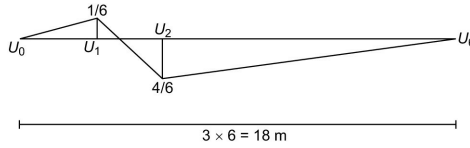

Fig. Q. 21
21. Influence line diagram for a member of the truss is as shown in the Fig. Q.21. What is the maximum direct force in the member when a udl of intensity 20 kN/m, longer than the span moves? (Ref. Fig. Q. 21)